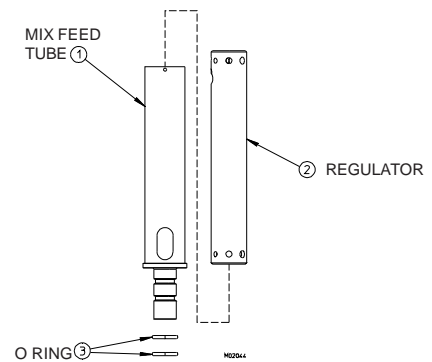

Figure 8-4
6. Remove the mix feed tube (figure 8-4) from the hopper.